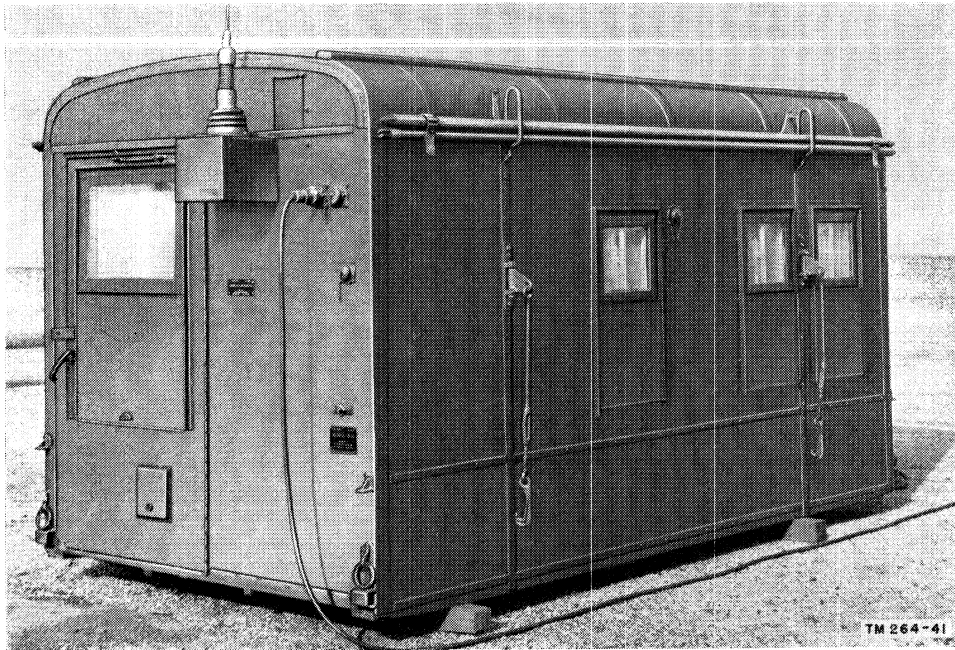

Figure 31. Position of Mast Base MP-47-A and Bracket MT-657/GRC.
e. Mount Mast Base MP-47-A on Bracket MT-657/GRC (fig. 31).
- (1) Screw one Mast Section MS-116-A into another Mast Section MS-116-A. Use two pairs of gas pliers to make the connection tight. Tape the joint with $\frac{3}{4}$ -inch friction tape.
- (2) Repeat this procedure with Mast Sections MS-117-A and MS-118-A. The receiving antenna will be composed of two Mast Sections MS-116-A and one each Mast Sections MS-117-A and MS-118-A.